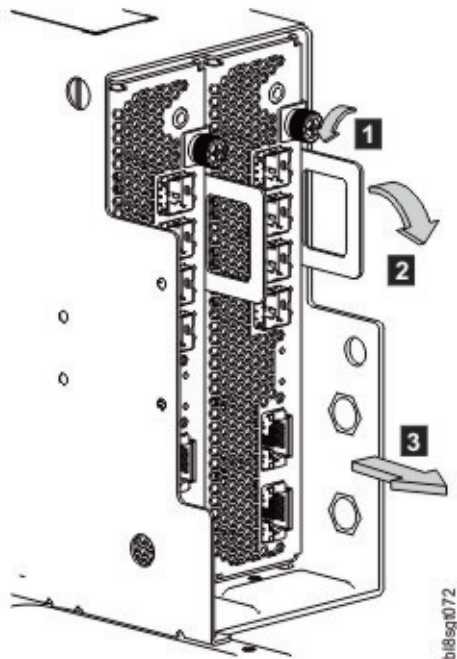
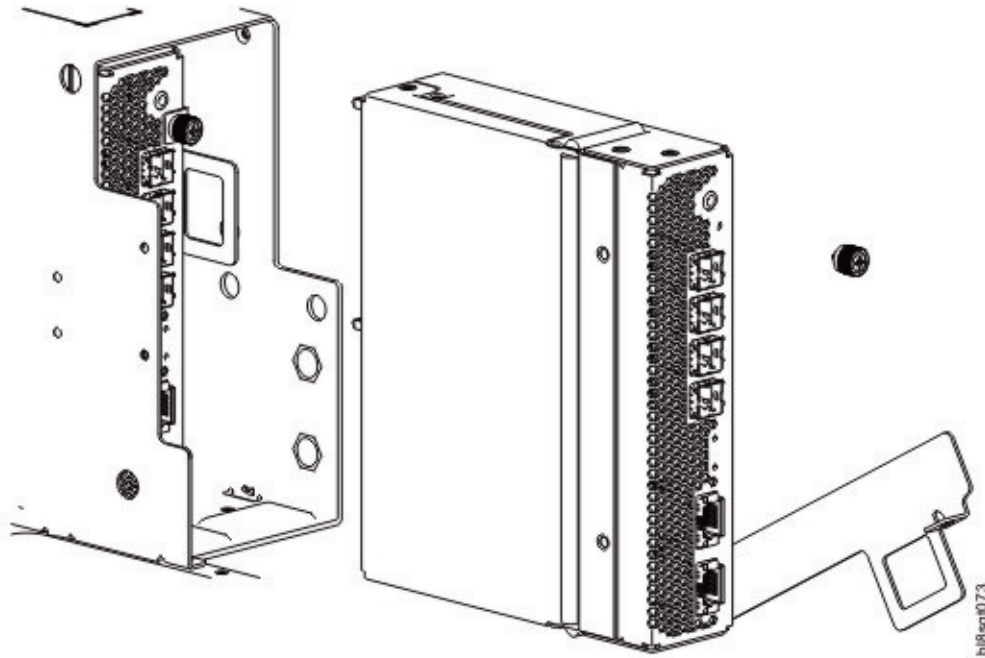

Figure 74. Removing an IOM/EBOD expander module (1 of 2)
Figure 75. Removing an IOM/EBOD expander module (2 of 2)
3. Unlock the IOM/EBOD expander module latch handle by turning the thumbscrew counter-clockwise as shown in detail No.1 in Figure 74 on page 79.
4. Grasp the IOM latch handle between the thumb and index finger and pull. Revolve the handle out and downward to lever the IOM/EBOD expander module out of the enclosure as shown in details No.2 and No.3 in Figure 74 on page 79.
5. Grip the latch handle and ease the IOM/EBOD expander module forward from the slot as shown within Figure 75 on page 80.
Note: When performing the following procedure, refer to Figure 75 on page 80 and Figure 74 on page 79 while ignoring the directional arrow. For installation, the IOM/EBOD expander module will travel in the opposite direction relative to the arrow shown.